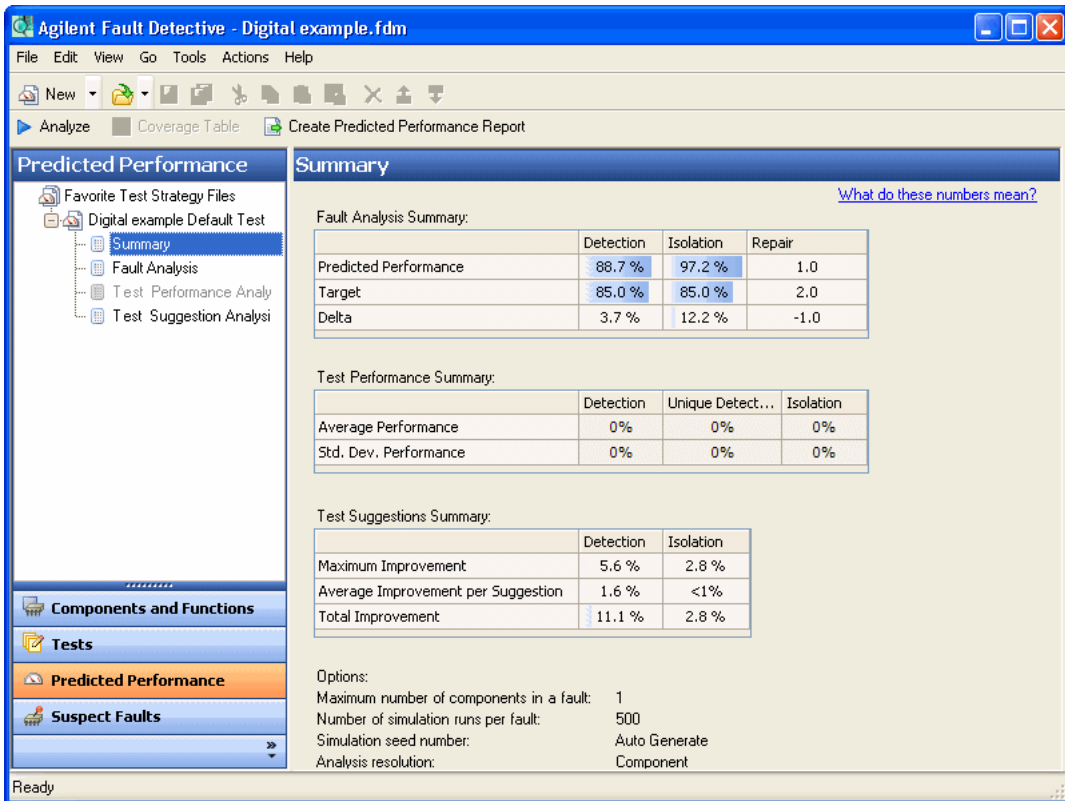
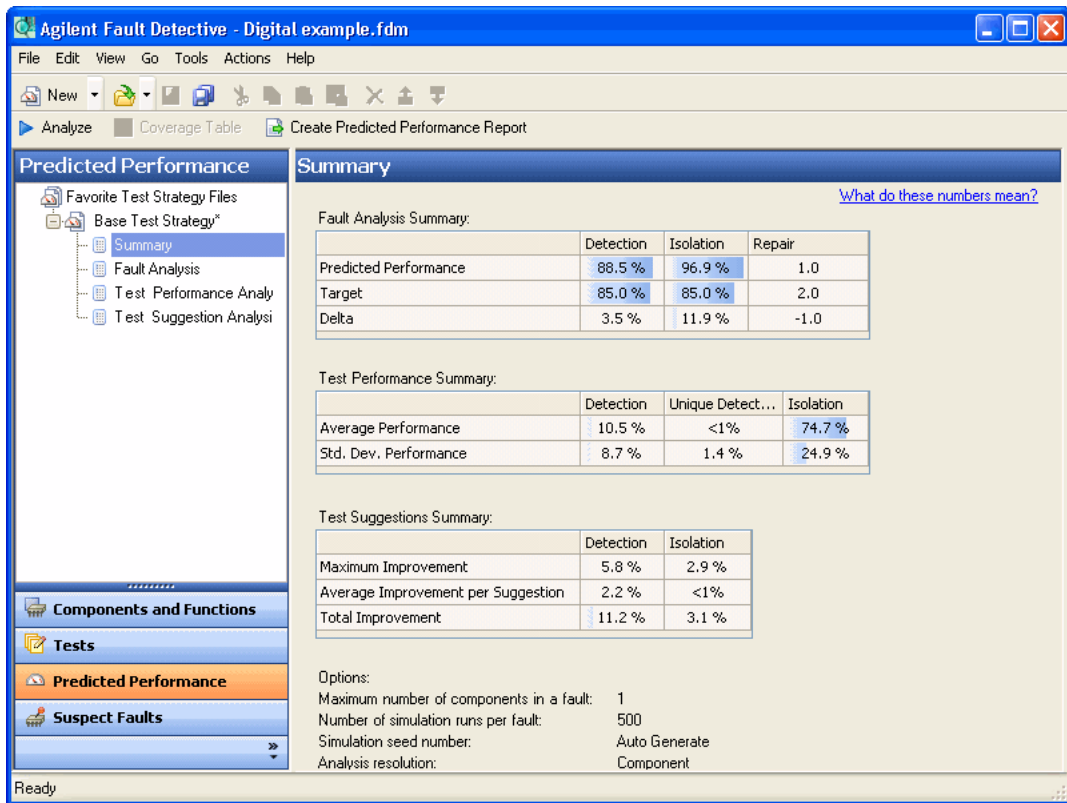

Figure 36 Typical Predicted Performance Summary for the *Digital example.fdm* model
Figure 45 Typical Predicted Performance Summary without the *Set_low*, *Set_mid*, *Read_low*, and *Read_mid* tests
- 4 The analysis produces a predicted performance summary similar to that shown in Figure 36.
Although the analysis numbers in Figure 36 are good, there are still opportunities for improvement.
- 7 Run the analysis. Compare the analysis summary results with the two tests removed (Figure 45 below) to those with all tests selected (Figure 36 on page 95). The overall performance has changed very little.